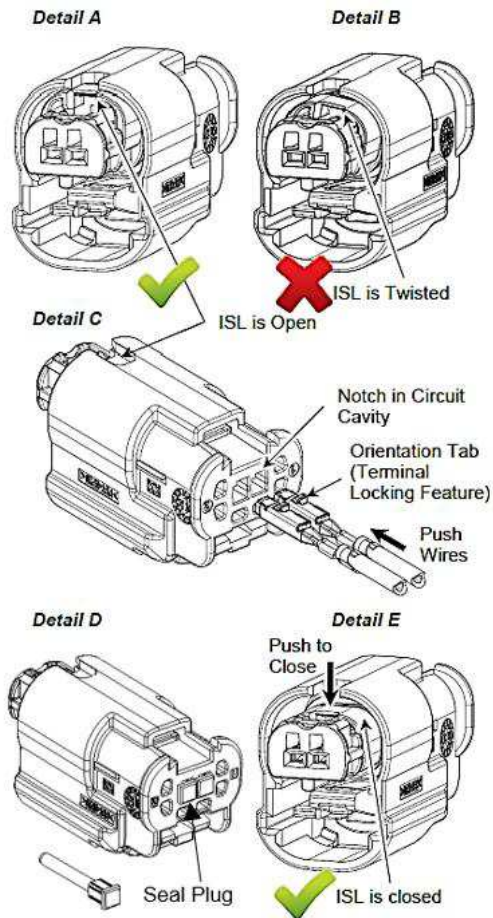

Figure 7
- iii. Make sure that the ISL is open as shown in Figure 7, Detail A. If the ISL is twisted as shown in Figure 7, Detail B, or otherwise not fully open, open the ISL according to 3.7. C ii
- a. Align the terminals with the selected circuit cavity of the housing so that the terminal orientation tab faces in the same direction as the notch in the circuit cavity. See Figure 7, Detail C.
- b. Insert the terminal into the circuit cavity until it bottoms. There should be an audible or tactile “click” when the terminal is fully seated. Gently pull the wire to ensure that the terminal is locked in place. See Figure 7, Detail C.
- v. Install a seal Plug into any unused circuits. See Figure 7, Detail D.
- vi. After all terminals have been inserted, slide the ISL until it is closed. The ISL should be easy to close. See Figure 7, Detail E. Visually inspect that the ISL is closed and rests uniformly flush within the Plug housing. If the ISL does not close completely, confirm the terminals are indeed fully seated in the circuit cavities prior to re-closing the ISL.
- b. The ISL will move by approximately 1.5 mm so that it is flush with the inside of the outer housing. See Figure 7, Detail A. This is the “open position” and the ISL must be in this position before removing the terminals from the connector.